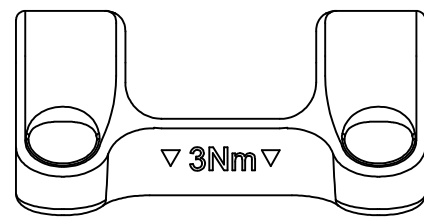
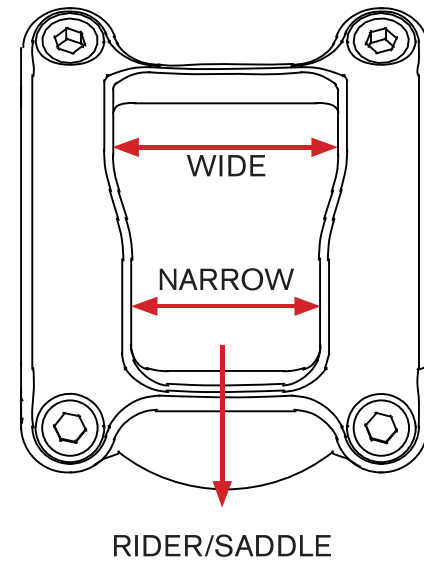

Fig. 2
Fig. 3
- When fitting the handlebar please ensure the correct tightening sequence is followed (fig. 3)
The marking on the part (3Nm, fig. 2) should be facing the rider/saddle. The narrower part of the cutout in the top of the plate (fig. 3) should also be facing the rider.